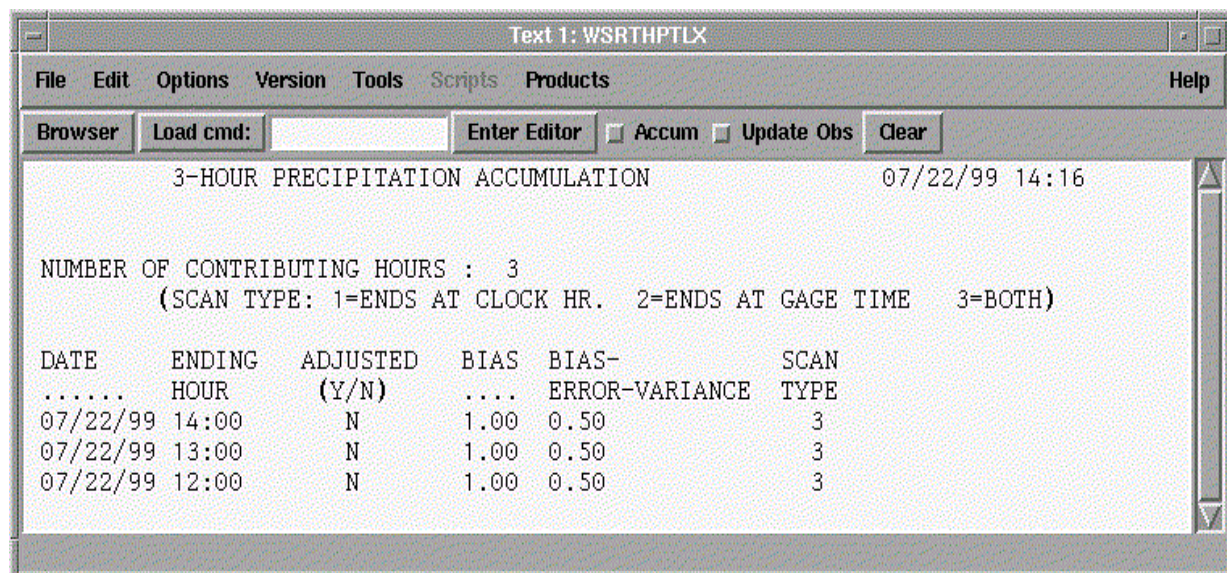

Figure 5-109. THP Alphanumeric Product
- **Paired Alphanumeric Product** (see Fig. 5-109)